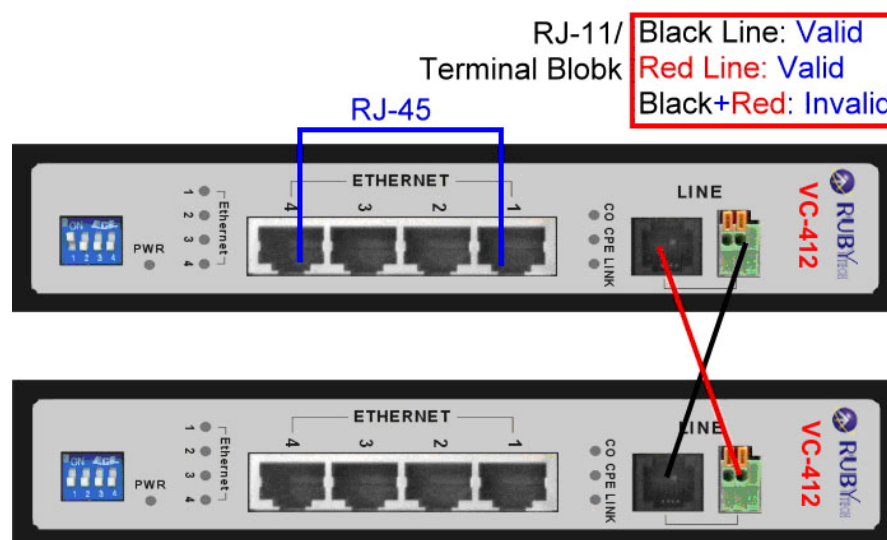

Figure 2.5 VC-412 line ports crossover connection
- ◆ The line port has 2 connectors: RJ-45 and terminal block. It is used to connect from VC-412 (CO) using single pair phone cable to VC-412 (CPE) bridge side (point to point solution). Take note that VC-412 line port cannot be used at the same time. Either RJ-11 port is connected or terminal block is connected using straight connection (Figure 2.4) or cross-over connection (Figure 2.5)